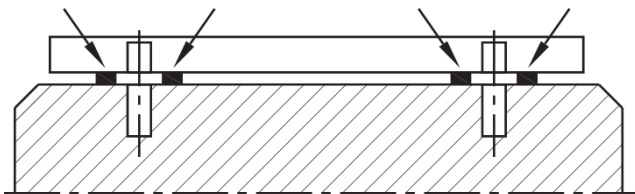

Fig.5.1. Foundation, base and installation of shims
- Locate the pumping unit on the foundation and add/remove shims under the base plate to adjust the level of the outlet orifice, using a spirit level according to Fig. 5.1. The unit must be ideally levelled.